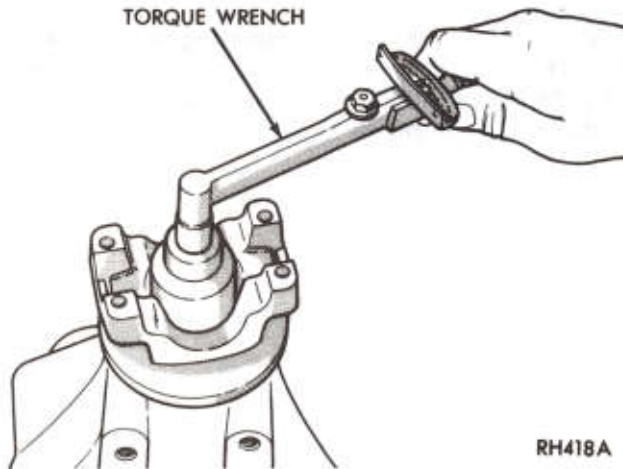

Fig. 44—Checking Pinion Bearing Preload
(1) Lubricate rear drive pinion bearing cone with axle lubricant and install bearing cone on pinion stem using Tool C-3095-A. An arbor press may be used in conjunction with tool.
(2) Install drive pinion and bearing assembly in carrier and install the original front pinion bearing shim pack followed by the bearing cone. **Do not install oil seal at this time.**
(3) Install universal joint flange, washer and nut. Tighten nut 250-270 ft. lbs. (339-366 N·m). Rotate pinion several complete revolutions to seat bearing rollers.
(4) Using an inch-pound torque wrench Tool C-685-A, measure pinion bearing preload by rotating pinion with handle of wrench floating (Fig. 44). Take reading while handle is moving through several complete revolutions. Accurate reading can be made only with nose of axle in upright position. Correct preload is 10-20 in. lbs. (1-2 N·m). **Add** shim to decrease preload and **Subtract** shims to increase preload. Shims are available in the following thicknesses: .003, .005, .010, and .030 inch (.076, .127, .254, and .762mm).
(5) After the correct pinion bearing preload has been established, remove the universal joint flange, nut, and washer.
(6) Install oil slinger and gasket. Using pinion seal installing Tool C-3719 and C-4171 Handle, install drive pinion oil seal.
(7) Install universal joint flange, washer, and nut. Tighten nut 250-270 ft. lbs. (339-366 N·m).